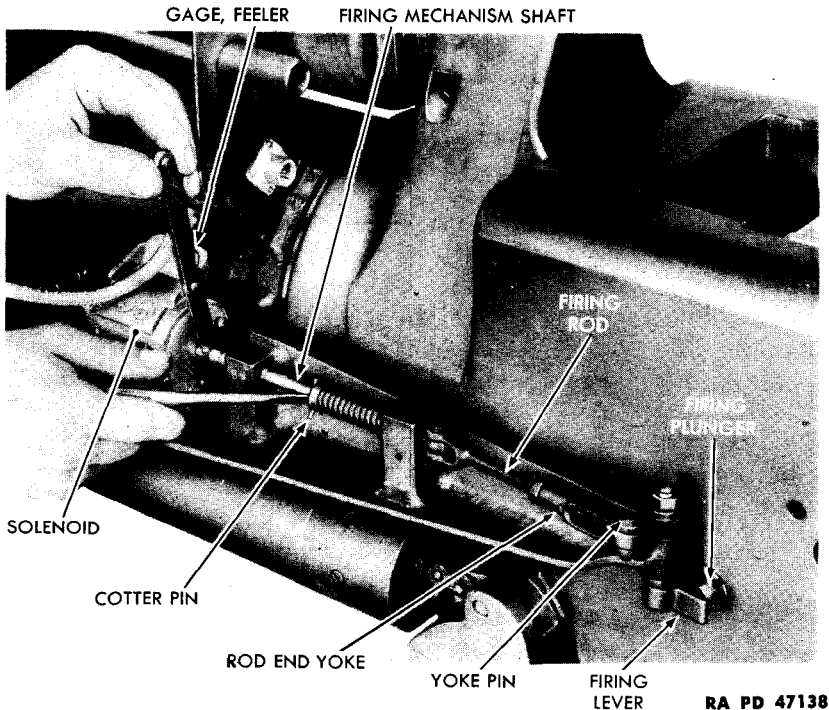

Figure 57 – Adjusting Firing Mechanism
b. Adjust Firing Mechanism (fig. 57).
- (1) Cock gun manually by pushing cocking lever forward.
- (2) Push firing rod and firing mechanism shaft rearward until firing lever is up against firing plunger. This removes all slack from yoke connections of firing mechanism. Then use a feeler gage to measure the distance between plunger end of solenoid and forward end of firing mechanism shaft. The correct distance should be 0.0625 or $\frac{1}{16}$ inch. This clearance enables firing mechanism to obtain this amount of free travel and sharply “slap” firing plunger when solenoid is energized.
- (3) Make desired adjustment by removing yoke pin from adjustable rod end yoke and screwing the yoke on firing rod until desired clearance is obtained. Then install yoke pin through yoke lever and yoke and secure by installing cotter pin.